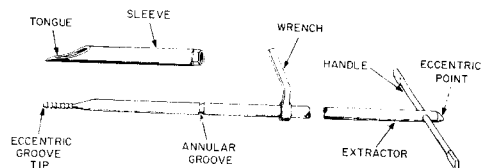

Fig. 6—Split Conduit Plug Remover
6.04 The split conduit plug remover consists of three parts—sleeve, extractor, and wrench, as illustrated in Fig. 6.